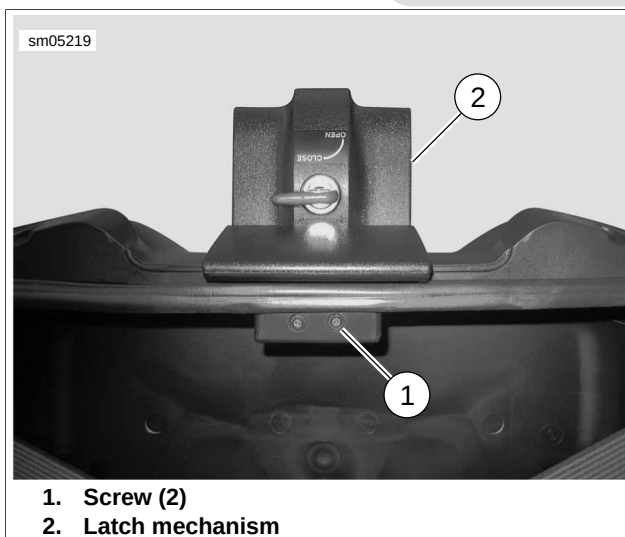
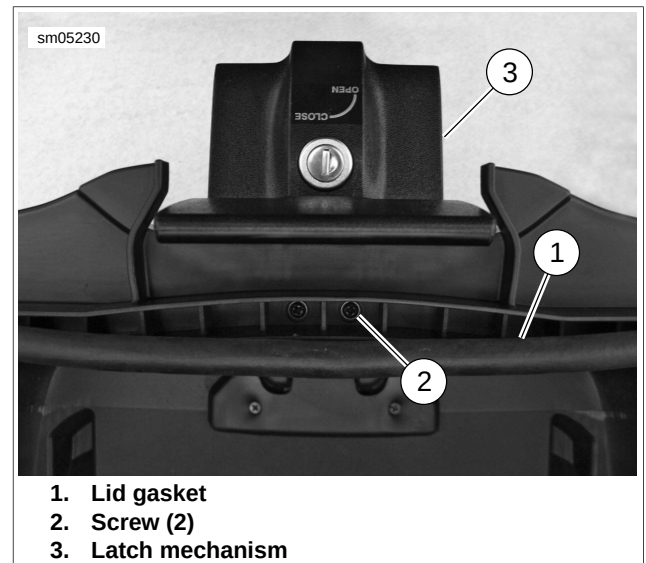

Figure 2-211. Side Case and Latch Mechanism
Figure 2-212. Top Case and Latch Mechanism
See Figure 2-212. In order to access the two Phillips head screws securing the top latch to the top case it will be necessary to lift the lid gasket above the middle of latch and out of the way.
- See Figure 2-211. Remove and discard two Phillips head screws from existing latch mechanism.
3. See Figure 2-211 or Figure 2-212. Install two **new** Phillips head screws into latch mechanism and tighten.
See Figure 2-212. On the top case it will be necessary to press lid gasket (1) back into place.